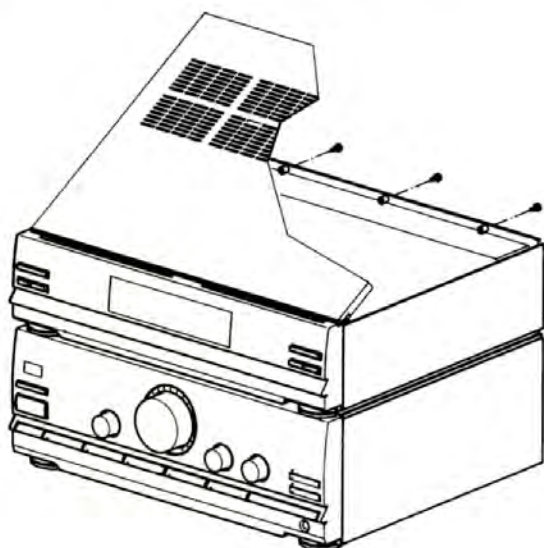

Fig. 1
- 1) Loosen 3x Torx 10 screws (see figure 1).
- 2) Remove top (see figure 1).